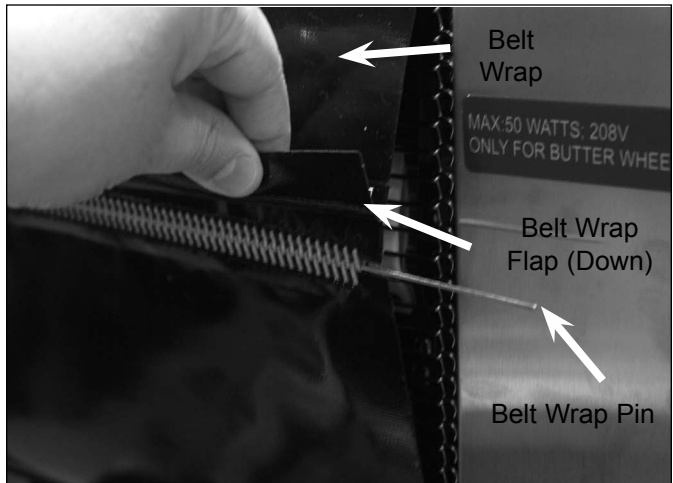

Figure 9. Removing Belt Wrap
3. Open both Conveyor Covers and pull the Belt Wrap Pin out of the zipper on the conveyor Belt Wrap (Figure 9).
2. Open both Conveyor Covers and pull the Belt Wrap Hinge Pin out of the zipper (Figure 9).
- Remove the Conveyor Cover(s) and pull the Belt Wrap Hinge Pin out of the zipper (Figure 9).